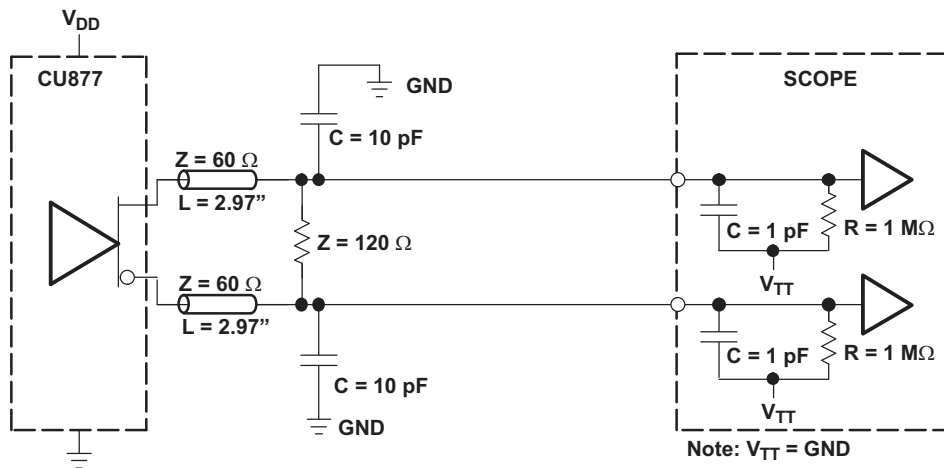
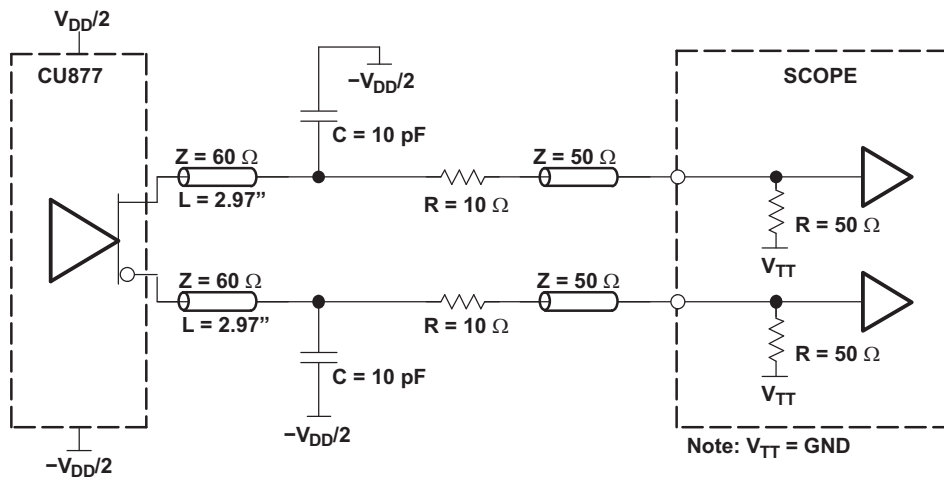

Figure 2. Output Load Test Circuit 1
Figure 3. Output Load Test Circuit 2
- (1) There are two different terminations that are used with the following tests. The load/board in Figure 2 is used to measure the input and output differential-pair cross voltage only. The load/board in Figure 3 is used to measure all other tests. For consistency, equal length cables must be used.
- (2) This parameter is specified by design and characterization.
- (3) Phase static offset time does not include jitter.
- (4) Period jitter, half-period jitter specifications are separate specifications that must be met independently of each other.
- (5) The output slew rate is determined from the IBIS model with a 120- $\Omega$  load only.
- (6) To eliminate the impact of input slew rates on static phase offset, the input skew rates of reference clock input CK and  $\bar{CK}$  and feedback clock inputs FBIN and  $\bar{FBIN}$  are recommended to be nearly equal. The 2.5-V/ns skew rates are shown as a recommended target. Compliance with these typical values is not mandatory if it can adequately shown that alternative characteristics meet the requirements of the registered DDR2 DIMM application.
- (7) Output differential-pair cross voltage specified at the DRAM clock input or the test load.
- (8)  $V_{OX}$  of CDCU877A is on average 30 mV lower than that of CDCU877 for the same application.